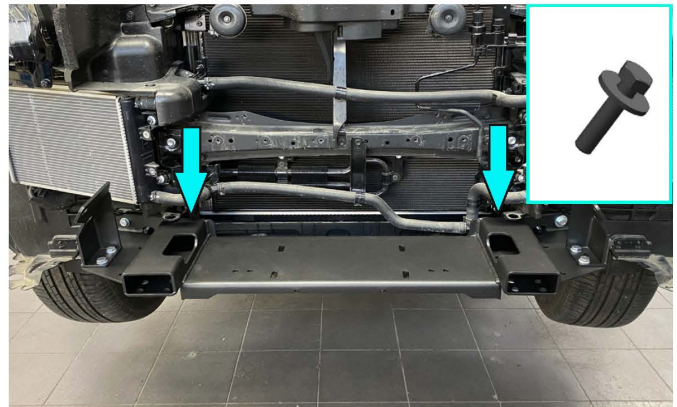

Fig.22
22. Fix winch bracket (item 9) on both sides of the vehicle using bolts M10x30(item F), washers 10 (item Q) as shown in fig.22.